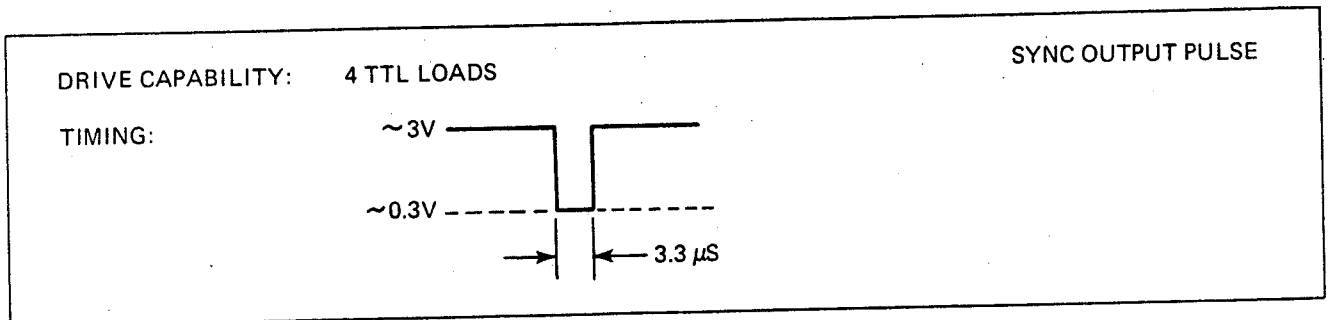
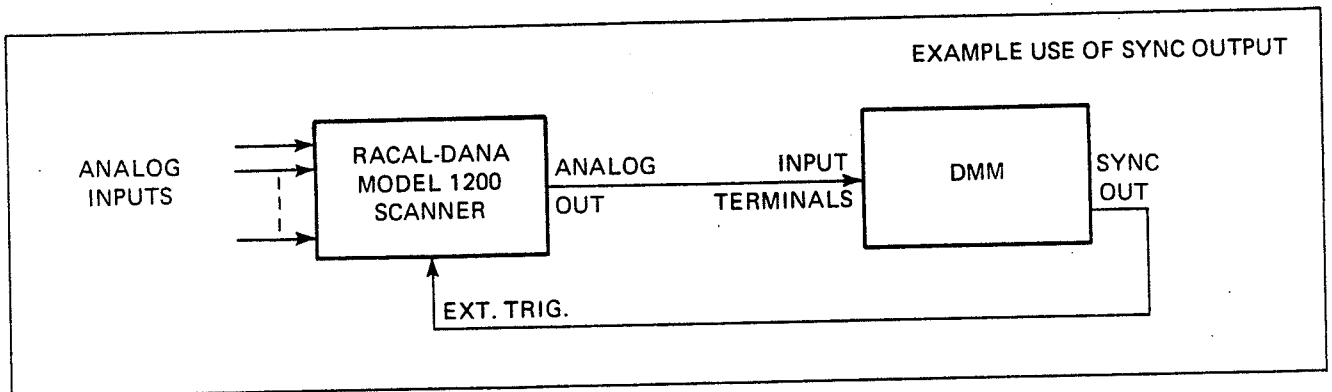

Figure 3.16B - Sync Output
Figure 3.16C - Sync Application
3.4.15.2.1 The DMM provides a synchronizing output pulse from a BNC connector on the rear panel. Refer to Figure 3.2. This pulse, timing shown in Figure 3.16B, indicates when the DMM has finished a reading or a sequence of readings. This output pulse can be used to sequence a signal scanner or other device as shown in Figure 3.16C.